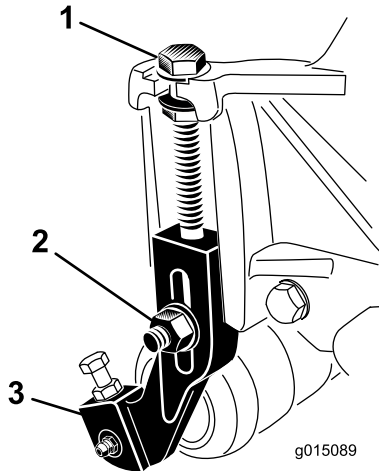

Figure 19
1. Loosen the locknuts securing the height-of-cut arms to the cutting-unit side plates (Figure 19).